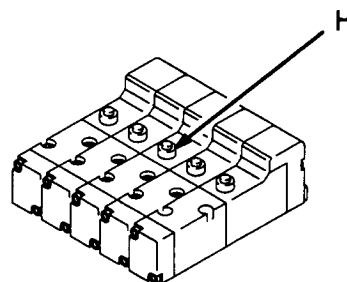

Fig 12
2. Press the manual override button (H) on the solvent solenoid valve, which is inside the PFC-2000 solenoid enclosure. Refer to Fig 12.